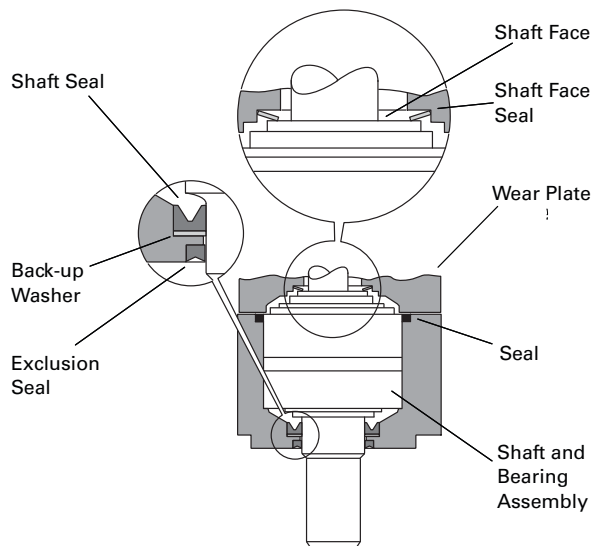

Figure 11.
21. Use a press to install exclusion seal in outer bore of bearing housing. Lip of seal must face outward. See Figure 11. If a press is not available use a plastic or rubber hammer, being careful not to damage or cock seal in the bore.
27. Install the shaft face seal in the wear plate as shown in Figure 11. Do not distort seal.
28. Install the wear plate, see Figure 11.